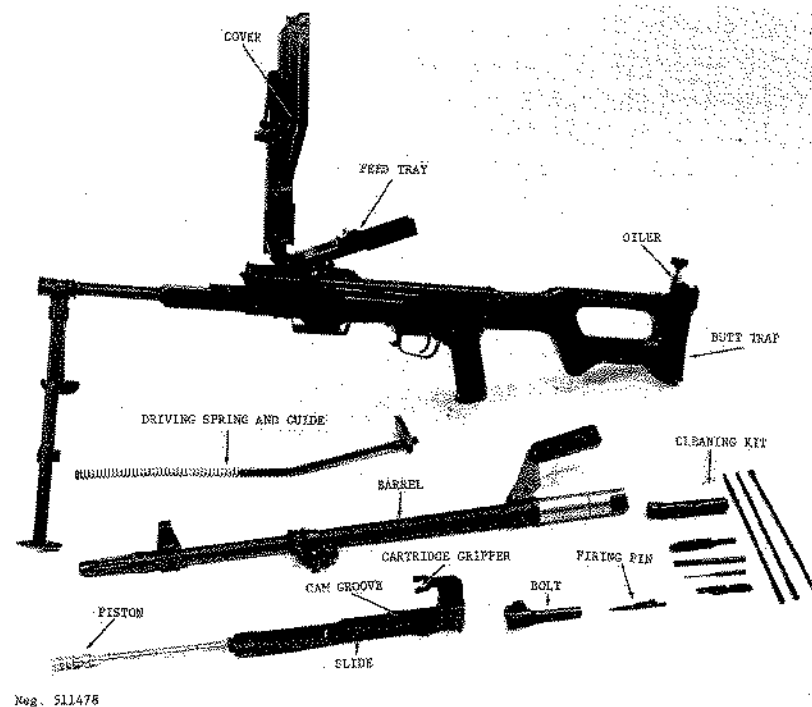

Figure 179. PK field stripped.
(1) Clear the gun (para 205g), but do not set at safe or close the cover. Remove the barrel (para 205e).
(2) Press in the driving spring guide at the rear of the receiver; then ease the guide and spring upward and out of the gun. Grasp the bolt carrier by the cartridge grippers (fig 179) and pull the entire unit rearward, then upward until it comes free of the receiver. Lift the bolt and carrier up and out of the gun.
(3) Pull the bolt forward in the carrier, simultaneously twisting the bolt free of the cam until it comes out of the carrier. Lift the firing pin free of its recess and remove it. No further disassembly is necessary or desirable.
of the driving spring, goes forward. The bolt, which travels with the slide, drives a cartridge out of the feeder and into the barrel until the rim of the cartridge seats on the end of the barrel. The extractor snaps over the rim of the cartridge, and forward motion of the bolt then ceases. The bolt carrier continues forward and carries the firing pin with it. As the carrier continues forward, its cam (fig 179) rotates the bolt to its locked position. The firing pin, locked to the carrier, strikes and fires the cartridge. The forward movement terminates when the front of the bolt carrier strikes the receiver.